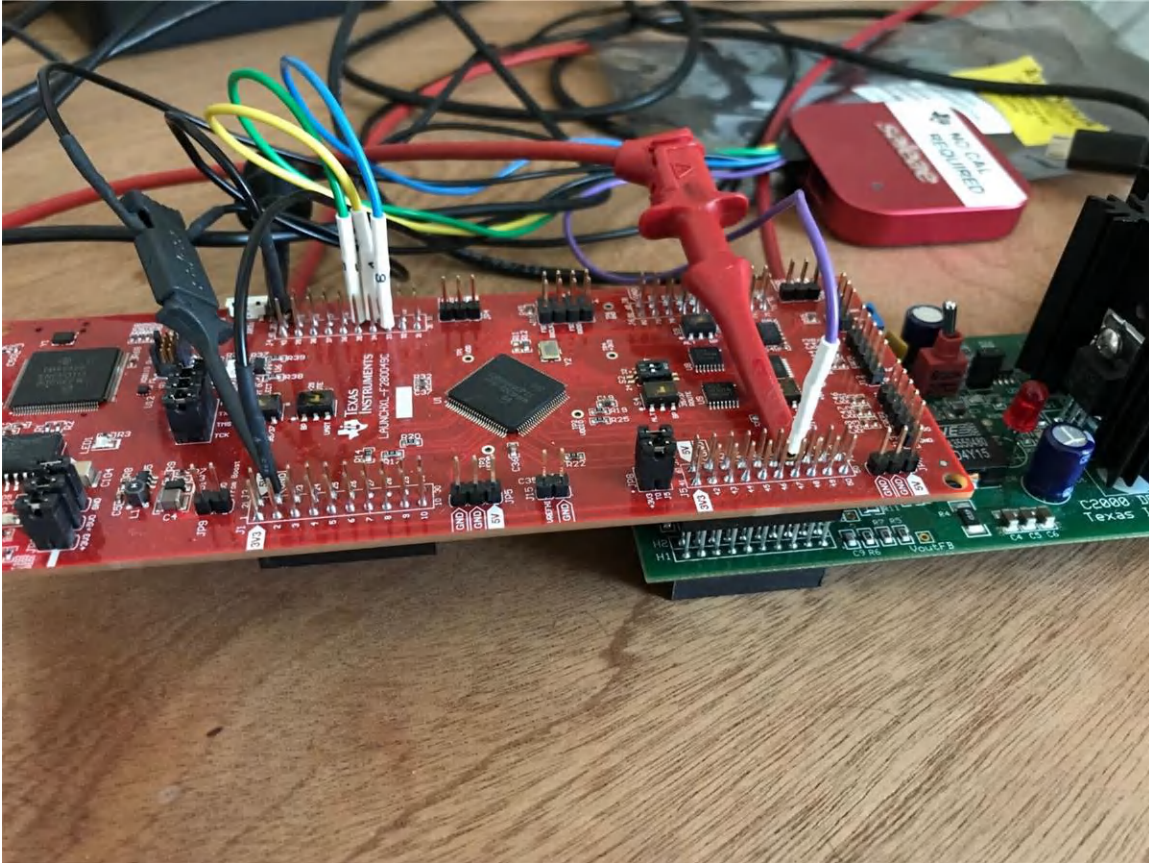

Figure 3-4. Connecting the Booster Pack to the F28004x Launchpad
2. Connect the Booster pack to the Launchpad as shown in Figure 3-4. The Launchpad is above the Boosterpack. Launchpad headers J5-J7 connect to Boosterpack headers H1-H2. Launchpad headers J6-J8 connect to Boosterpack headers H3-H4. This represents Launchpad Site2 in the project, in main.syscfg (Powerstage Parameters – Hardware – Launchpad Site).